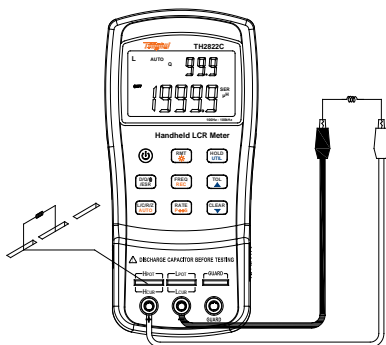
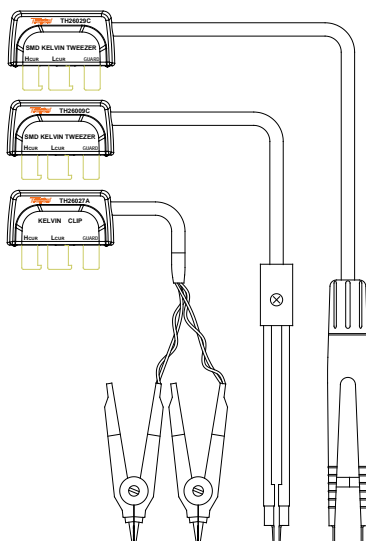
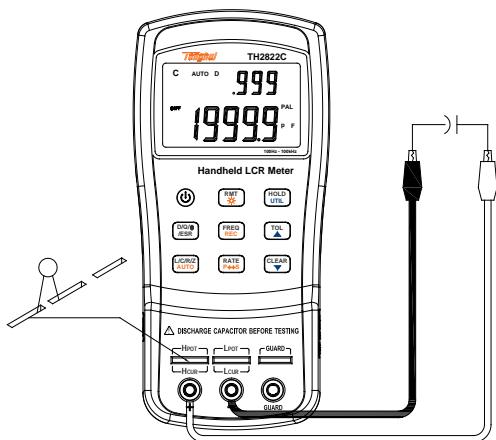
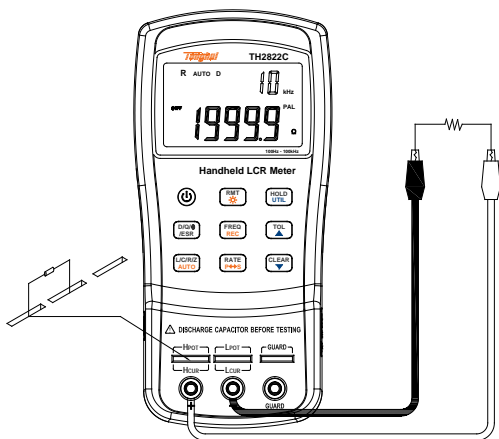

Figure 12- Inductance Measurement
Figure 13- 4-terminal Test Accessories
Figure 14- Capacitance Measurement
Figure 15- Resistance Measurement
3. Insert an inductor into test slots or connect a tested inductor through a proper test accessory (e.g., banana plug-crocodile clip test leads, test fixture or SMD test tweezers). See figures 12. And figure 13 shows the optional 4-terminal test accessories.
3. Insert a capacitor into test slots or connect a tested capacitor through a proper test accessory (e.g., banana plug-crocodile clip test leads, test fixture or SMD test tweezers). See figure 14. And figure 13 shows the optional 4-terminal test accessories.
3. Insert a resistor into test slots or connect a tested resistor through a proper test accessory (e.g., banana plug-crocodile clip test leads, test fixture or SMD test tweezers). See figure 15. And figure 14 shows the optional 4-terminal test accessories.
3. Insert impedance (resistor, capacitor or inductor) into test slots or connect tested impedance through a proper test accessory (i.e., banana plug-crocodile clip test leads, test fixture or SMD test tweezers). Figure 13 shows the optional 4-terminal test accessories.